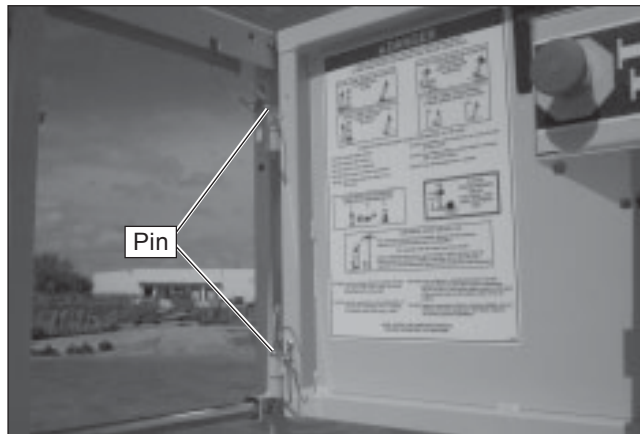

Figure 9.8 – Front Panel
- Remove the two pins that connect the front panel to the guardrails (refer to Figure 9.8).